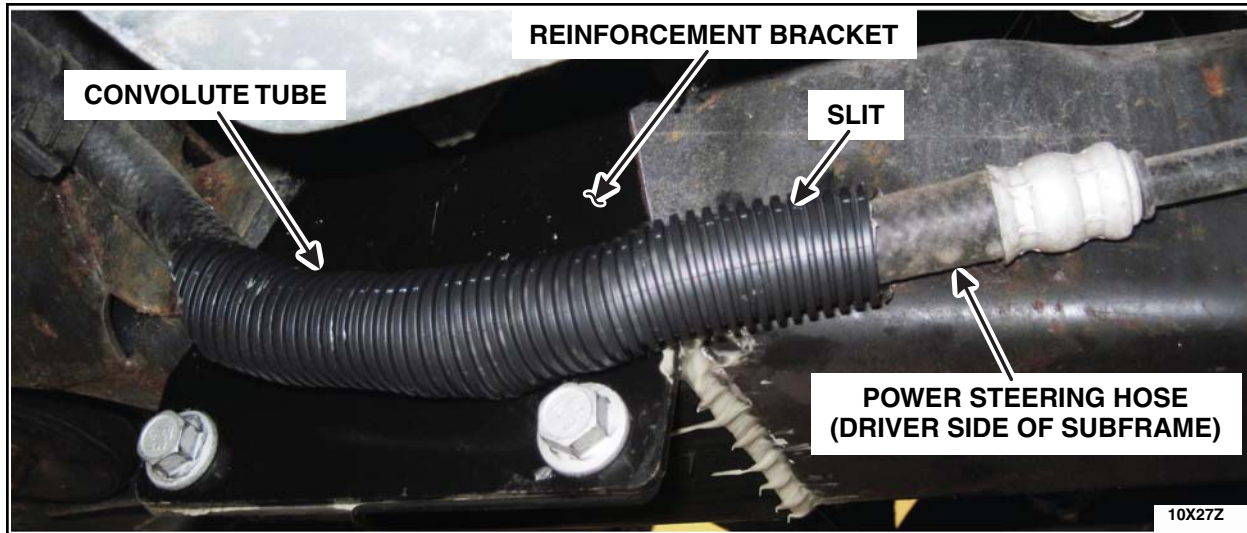

FIGURE 17
25. Install approximately 20 cm (8 in) of 19 mm (0.75 in) diameter convolute tube over the power steering hose to protect it from wearing on the reinforcement bracket. Ensure convolute tube is oriented with slit facing up as shown. Secure in place. See Figure 17.